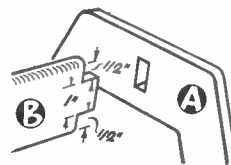

Fig. 4
The front view and end view in Fig. 3 show the position of the trays in relation to the ends (A). Measurements are given on the front view. This diagram also shows the handle (B) which is cut from 1/2in. wood. It is tenoned at both ends and fits into a mortise in each piece (A). A detail of this is shown in Fig. 4. The edges are rounded off to provide an easy grip for the hands.
Fig. 4 shows the type of sail used as main, fore and mizzen on the fore and